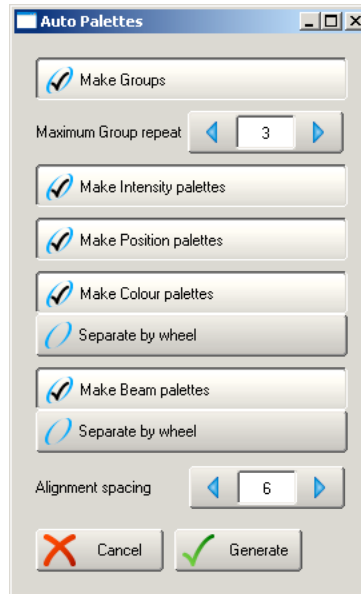

Figure 14.5. The Auto Palettes window
2. Click on the Auto Palettes button (located in the toolbar at the top of the Fixture window) and select from the options in the Auto Palettes window; see Figure 14.5, "The Auto Palettes window".